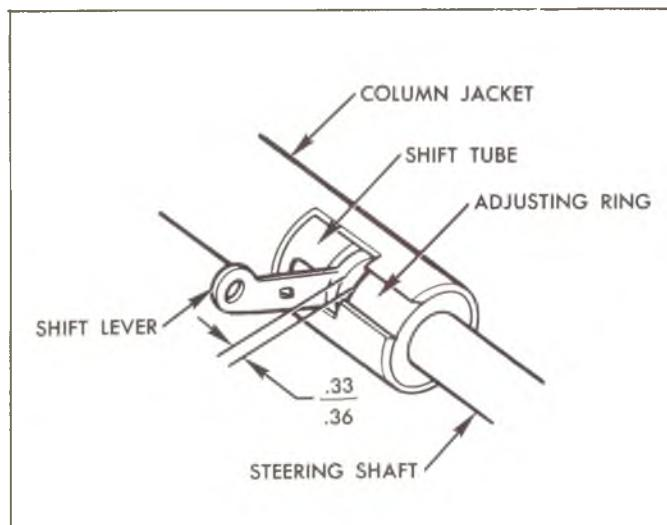

Fig. 38—Shift Tube Adjustment - Automatic Transmission
2. Loosen adjusting ring clamp screws and rotate the shift tube adjusting ring to obtain $.33''$ to $.36''$ clearance between the shift tube lever and adjusting ring (fig. 38).